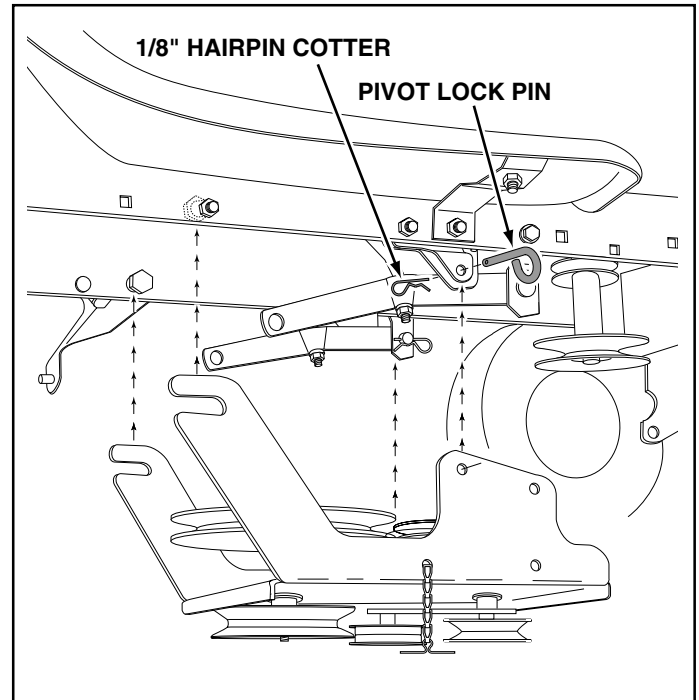

FIGURE 21
5. Attach the clutch/idler assembly to the tractor frame by sliding the notched rear arms of the assembly onto the two shoulder bolts placed on the inside of the tractor frame. Lift the front of the assembly so that the sides fit inside the R.H. and L.H. hanger brackets. Attach the assembly to the brackets using two pivot lock pins and 1/8" hairpin cotters. See figure 21.